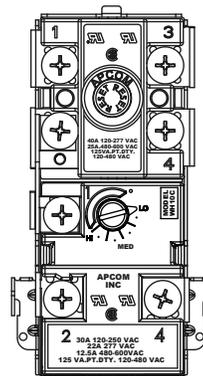
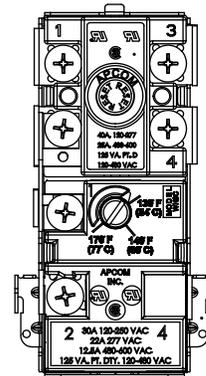
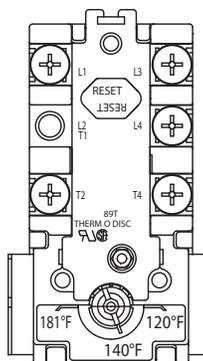
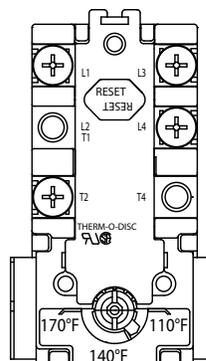

Figure 7. A-8 Circuit Thermostat with Three Set Points
Figure 8. C-2 Circuit Thermostat Adjustment Range
Figure 9. A-8 Thermodisc Thermostat
Figure 10. C-2 Thermodisc Thermostat
3. Press the red manual reset button on each Thermostat/ECO combination control. See Figure 7, Figure 8, Figure 9, or Figure 10 (page 9).
A-8 Circuit thermostats have three designated set points; LO, MED and HI. (See Figure 7). The approximate equivalent temperatures for these three settings are: LO = 140°F (60°C), MED = 160°F (71°C) and HI = 181°F (83°C). These thermostats are set from the factory at the LO 140°F (60°C) setting. The over temperature device (ECO high limit) attached to each thermostat has a manual reset. The C-2 circuit thermostat is adjustable from
approximately 130°F (54°C) to 170°F (77°C) (See Figure 8). These thermostats are set from the factory at approximately the 140°F (60°C) setting. The over temperature device (ECO high limit) attached to each thermostat has a manual reset.
A-8 circuit thermodisc thermostats are adjustable from approximately 120°F (49°C) (lowest setting) to 181°F (83°C) (highest setting) (See Figure 9). The C-2 circuit thermostat is adjustable from approximately 110°F (43°C) to 170°F (77°C) (See Figure 10). These thermostats are set from the factory at approximately the 140°F (60°C) setting. The over temperature device (ECO high limit) attached to each thermostat has a manual reset.